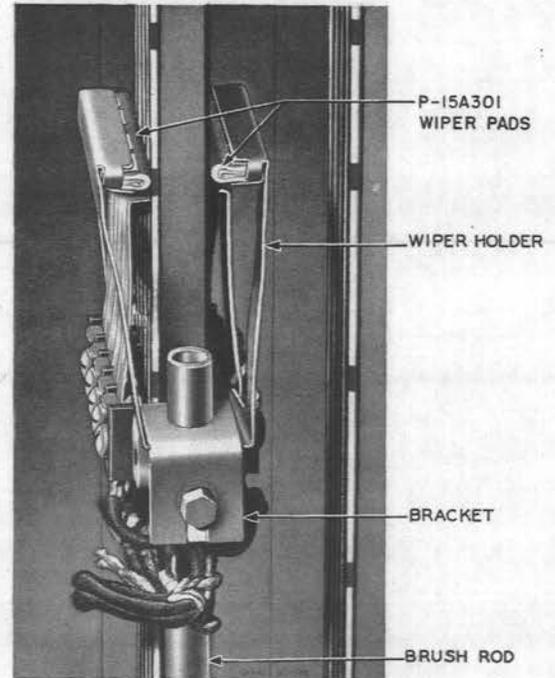

Fig. 4 - Wiper Holder, Bracket, and Pads Mounted in Place
3.11 Insert the P-15A301 wiper pad (see 1.04) in the pad receptacle at each side of the top of the wiper holder (see Fig. 4). To do this,